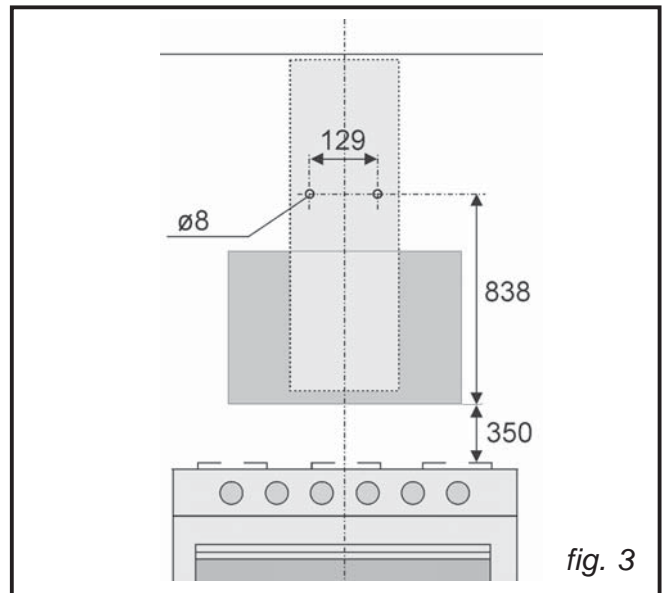
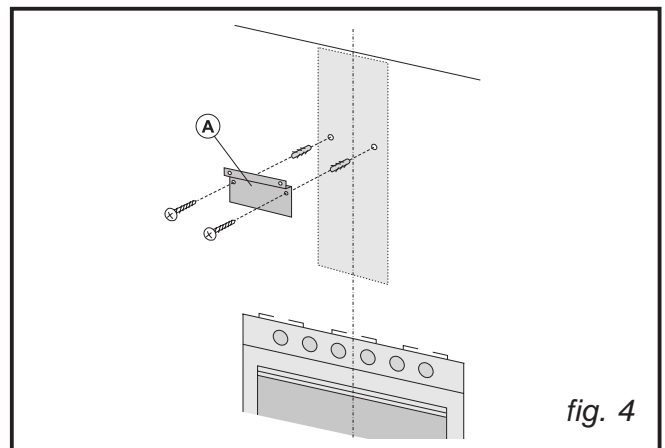

fig. 3
fig. 4
Draw a line on the wall in vertical line with your hob. Mark the first 2 holes to be drilled in the wall, respecting the distances indicated in Fig.3. Drill the 2 holes and fit the screw anchors provided. Bear in mind that the distance between the lower edge of the hood and the hob must be 350 mm. Fix the metal bracket (A) to the wall using the 2 holes just drilled (Fig. 4); the screws for fixing the bracket are provided. Use the 2 cut-out triangles on the bracket to position it exactly along the vertical axis of the hood.